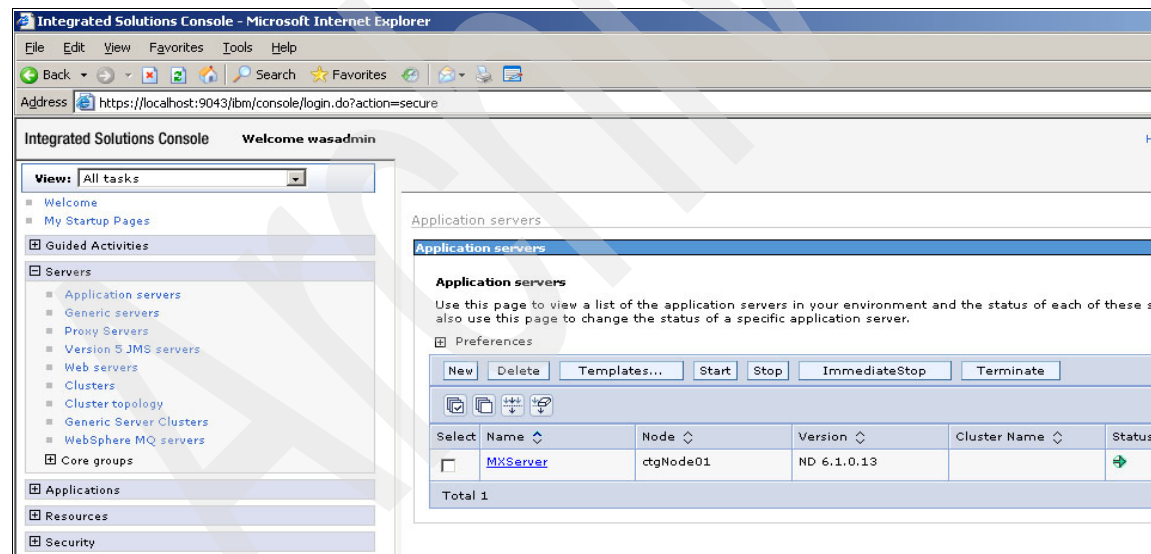

Figure A-1 MXServer
1. From the Servers link in the tree view, click **Application servers**. Click **MXServer** in the main window (see Figure A-1).